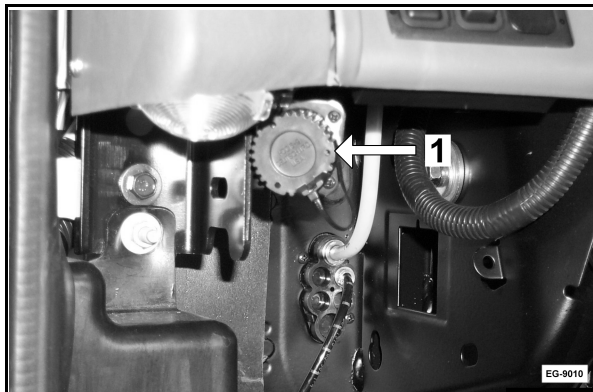

Figure 54
2. Connect the **International** interface cable from the Electronic Service Tool (EST) to the American Trucking Association (ATA) diagnostic connector. The ATA diagnostic connector is located below the dash panel (left side) (See Figure 54, page 99).